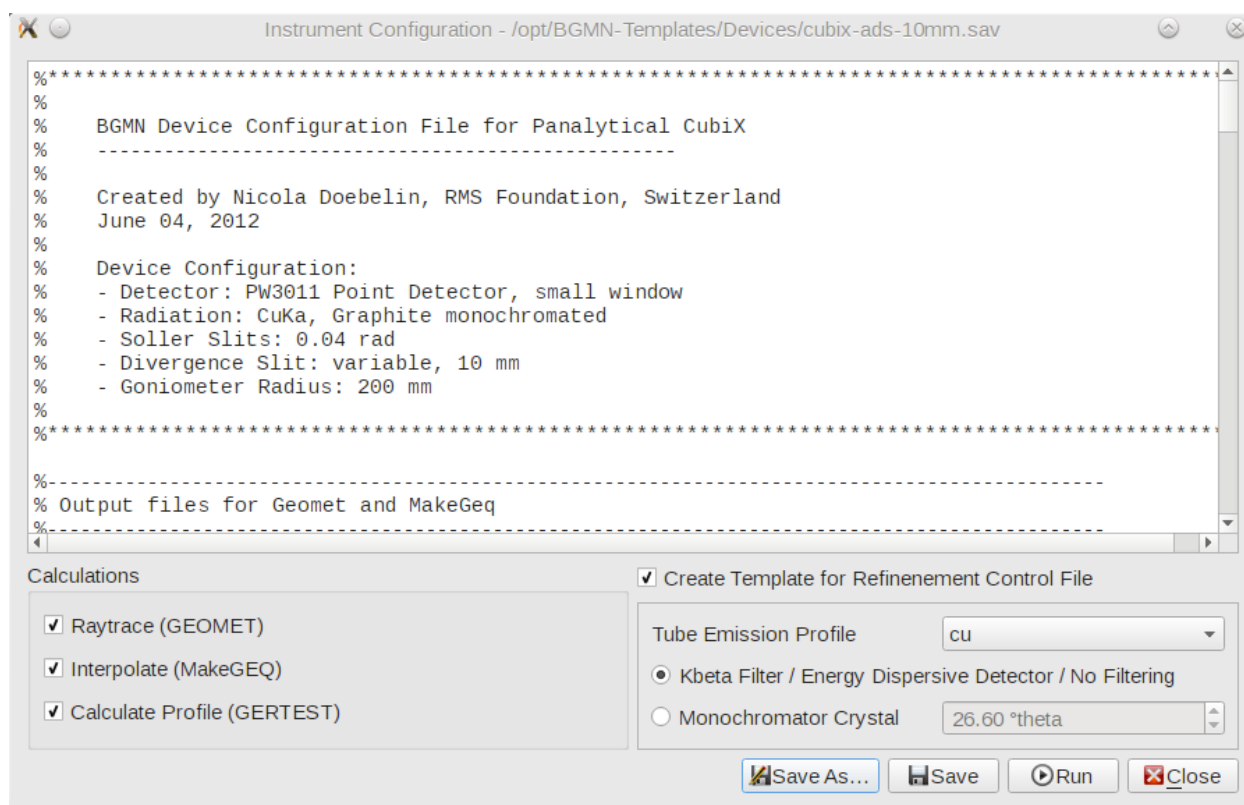

Figure 17: „Instrument → Edit Configuration...” opens a dialog to edit an existing instrument configuration.
2. The instrument dialog shown in Fig. 17 will be shown. Edit the file as intended.